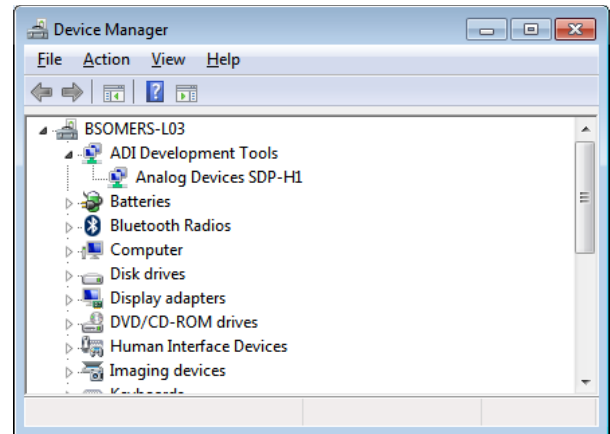

Figure 10. Device Manager Window
1. Navigate to the Device Manager window on the PC (see Figure 10).
3. The **Computer Management** window opens. In the list labeled **System Tools**, click **Device Manager**. If the SDP-H1 driver is installed, and both the SDP-H1 board and the EV-ADuM7704-8FMCZ are properly connected to the PC, **Analog Devices SDP-H1** is shown in the **ADI Development Tools** list in the **Device Manager** window, as shown in Figure 10.